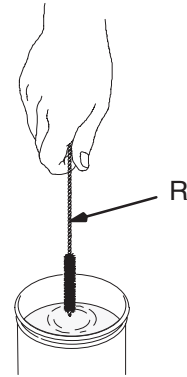

Fig. 17
5. Soak air cap, detent plate and fluid nozzle in solvent. At a minimum, clean air cap and fluid nozzle daily. Use solvent and brush (R), provided. See Fig. 17. Some applications require more frequent cleaning. Keep all air cap holes clean.